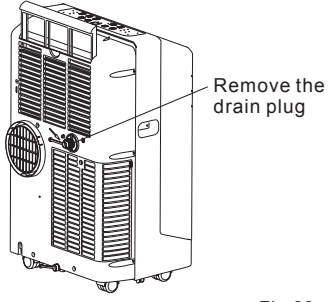

Fig. 23
- During dehumidifying mode, remove the drain plug from the back of the unit, install the drain connector(5/8" universal female mender) with 3/4" hose(locally purchased). For the models without drain connector, just attach the drain hose to the hole. Place the open end of the hose directly over the drain area in your basement floor. Please refer to Fig.23 & 24.
- Remove the rubber plug at the back of the unit and attach a hose to drain outlet. Place the open end of the hose directly over the drain area in your basement floor (See Fig.23 & 24).